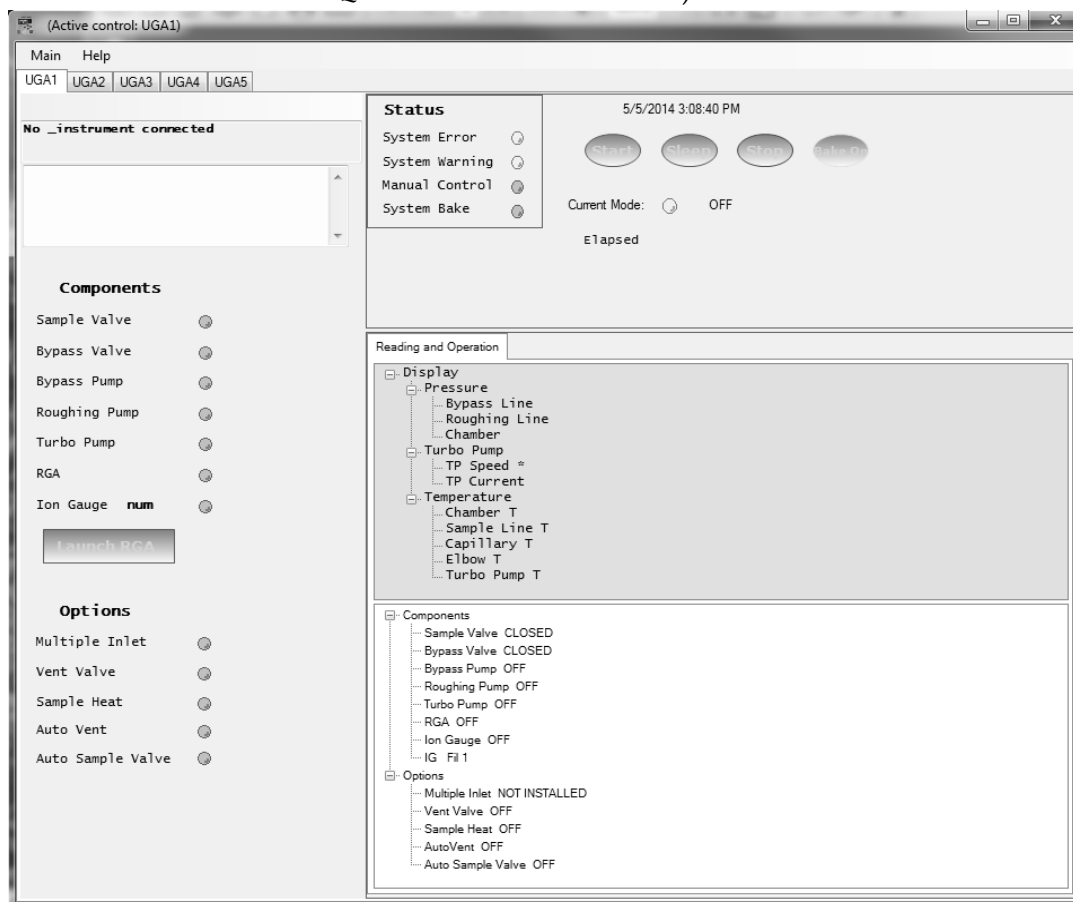

Fig. 2-3 Screenshot of the initial window of UGA control software.
A full featured software application included with the instrument provides an intuitive graphical user interface to the controls (See figure 2-3). All pumps, valves and heaters can be controlled from within the software. Every operation that takes place (valve open or close, pumps turned on or off, heaters activated, etc.) is logged as a time stamped "event" by the software. The event log can be stored as a file on the PC hard drive. This log can be very useful for troubleshooting: if a user finds the UGA's interlocks activated while he was away, the event log will show what gauge registered an overpressure and when. This allows the user to track exactly where a problem began instead of guessing what went wrong. This can save hours of time in debugging a vacuum process.
4. Select 'UGA' icon or double click 'UGAControlApp.exe'. You should see the screen below. (Fig. 2-3) If the window is blank, click 'Main' and select 'New UGA'. (Refer to the Quick Start of this manual.)